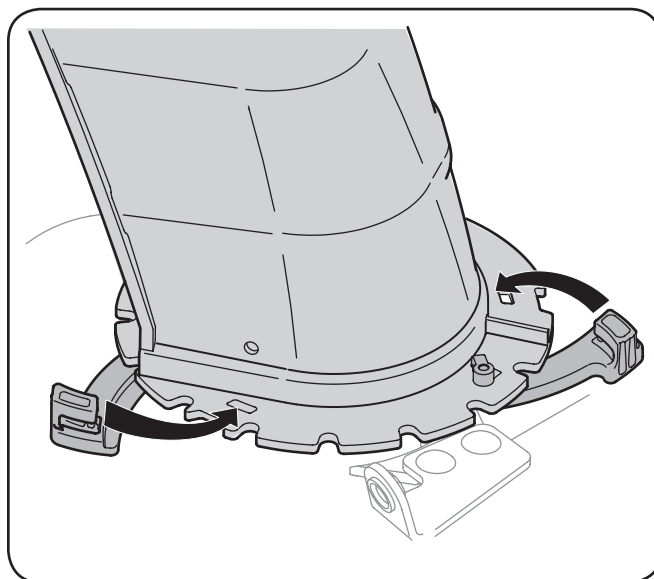

Figure 3-20
2. Close the flange keepers to secure the chute assembly to the chute base. The flange keepers will click into place when properly secure. See Figure 3-20.